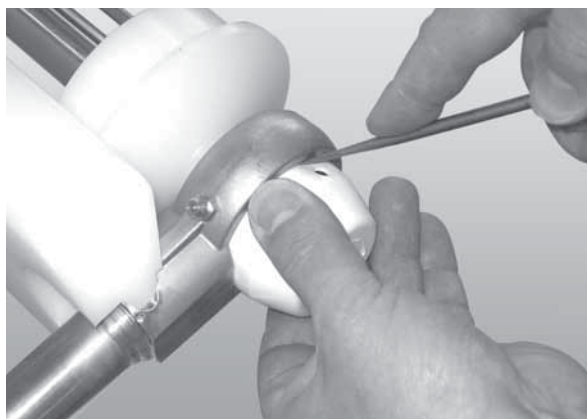

Figure 79
3. Remove the bearing cover (**Figure 79, item 1**).